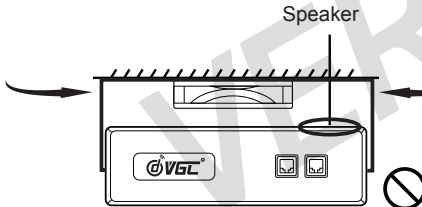

Figure 5
*The figure 5, 6, 7 is wrong installation method.